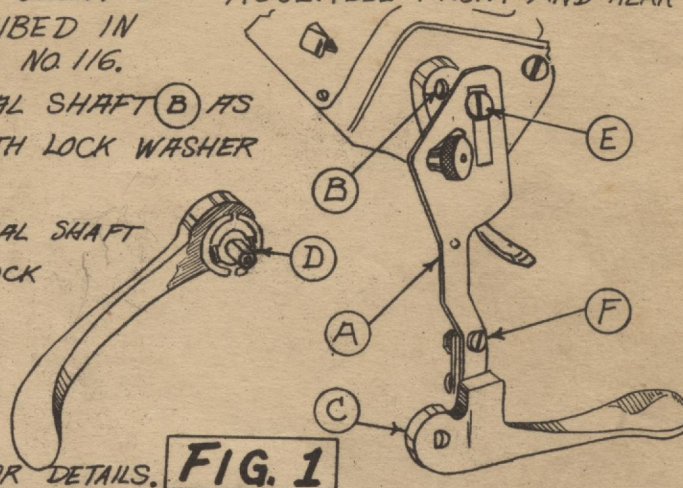

FIG. 1
- ⑭ ASSEMBLE THUMB SCREW (A) TO STUD (M) AND POSITION (A) IN BOTTOM OF SLOT AS SHOWN IN FIGURE (6).
- ⑮ POSITION SPACING WASHER (N) IN BACK OF (R) AS SHOWN AND PLACE ASSEMBLY (R) WITH WASHER (N) ON TOP OF LEVER (X). INSERT SCREW (P) TEMPORARILY.
- ⑯ PLACE (R) OVER (Q). SLOT (T) ENTERING GUIDE STUD (U). INSERT SCREW (L) IN SLOTS (V) AND SECURE WITH LOCK WASHER AND NUT (J). SEE FIGURE (5).
- ⑰ TO ASSEMBLE UNIT (E) TO DIAL CLEAR OUT SHAFTS SEE PLATE 1 FIGURE 1